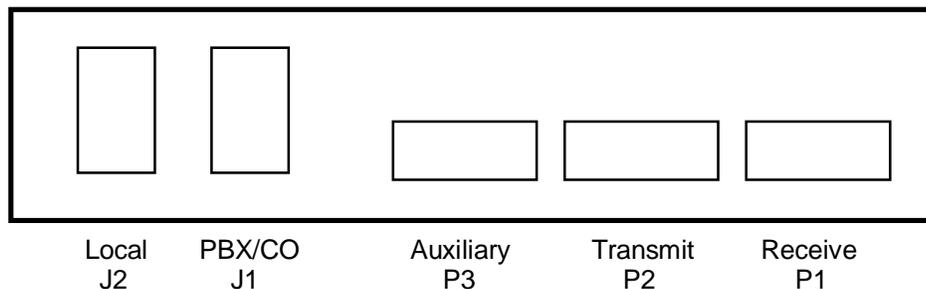

Figure 2-1 Rear of the ZR350
2. If the ZR350 is still in the factory default configuration and no Digital Voice Delay board is to be used, proceed directly to step 4, otherwise, remove the top cover from the ZR350. Working from the rear of the unit, the radio connectors will be on the right and the telephone connectors on the left. See Figure 2-1.